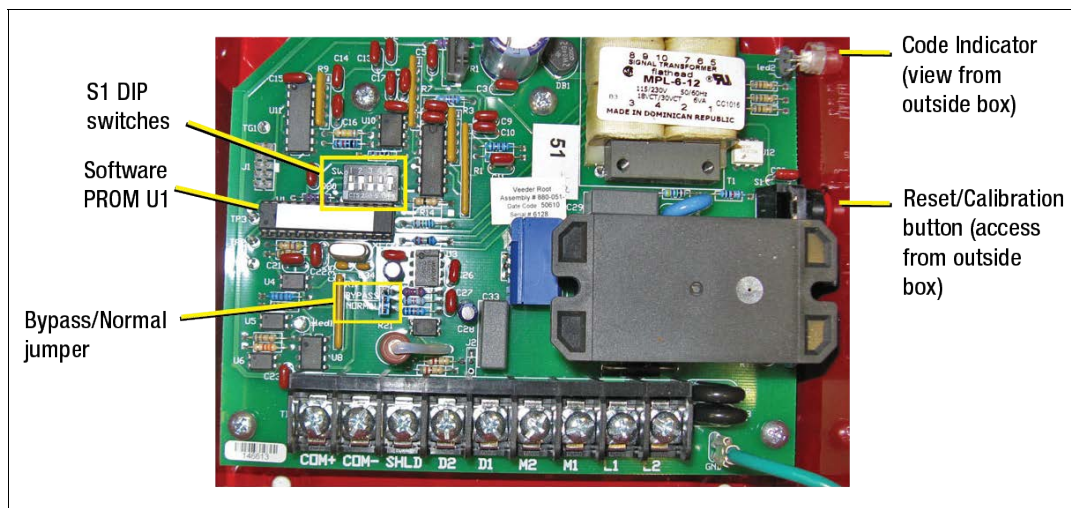

Figure A-3. Locating Software Upgrade Components Inside Typical IQ Control Box
3. Locate the Software PROM U1 (see Figure A-3).
5. To verify the motor type, locate the Code LED and the Reset/Calibration button (see Figure A-3). Depress and hold the Reset/Calibration button, after approximately 20 seconds the Green LED begins flashing the motor type code. The number of Green flashes (from 1 to 18) indicates the programmed motor type.